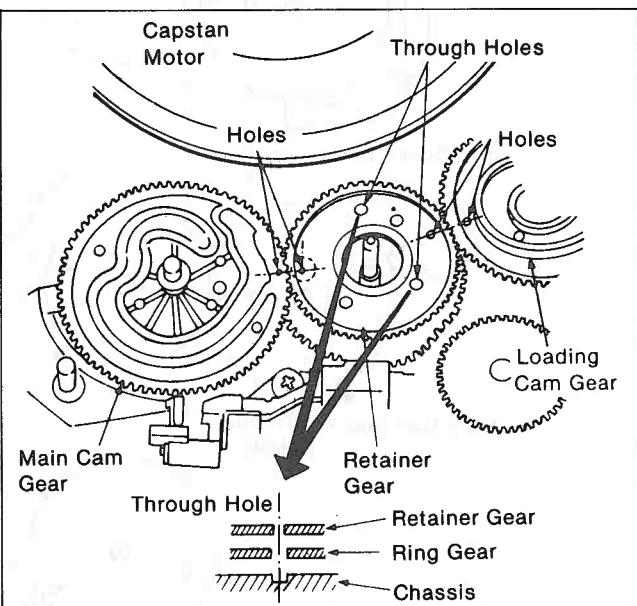

Figure M46
1. Install the Retainer Gear onto the Ring Gear so that the two holes in the Retainer Gear align with the two holes in the Main Cam Gear, at this time, small indent outside of large hole on the Main Cam Gear should align with small hole on the Retainer Gear as shown in Figure M46.
- Install the Loading Cam Gear so that the small hole which is directly outside of the large hole on the Loading Cam Gear is aligned with the outside hole of the Retainer Gear as shown in Figure M46.